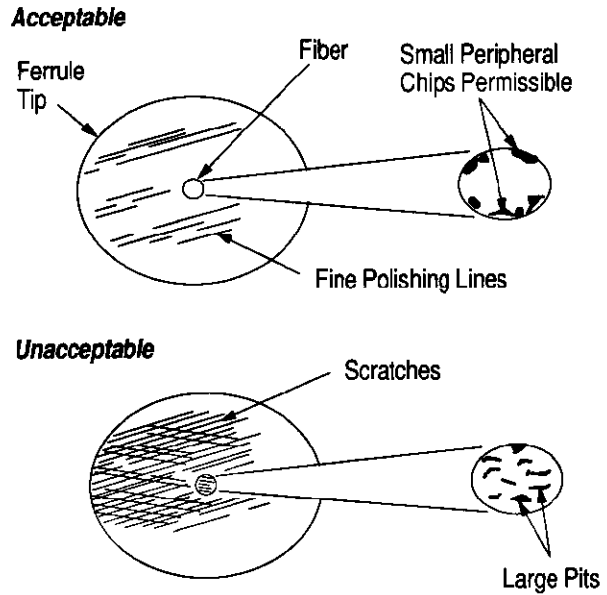

Figure 17
5. Check the polishing with a microscope or a magnifier. Check for the following (see Figure 17):